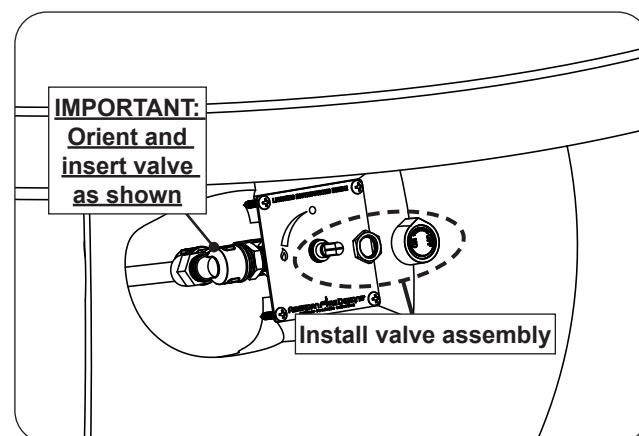

Fig. 26-4 Install valve assembly
6. Insert the valve assembly through the plate (in the base). Replace the nut onto the valve stem, and tighten. Reinstall the control knob. See Fig. 26-4.
**Important:** Handle with care to prevent damage to the thermocouple and gas connections. Ensure the valve is oriented and inserted in the manner shown. See Fig. 26-4.